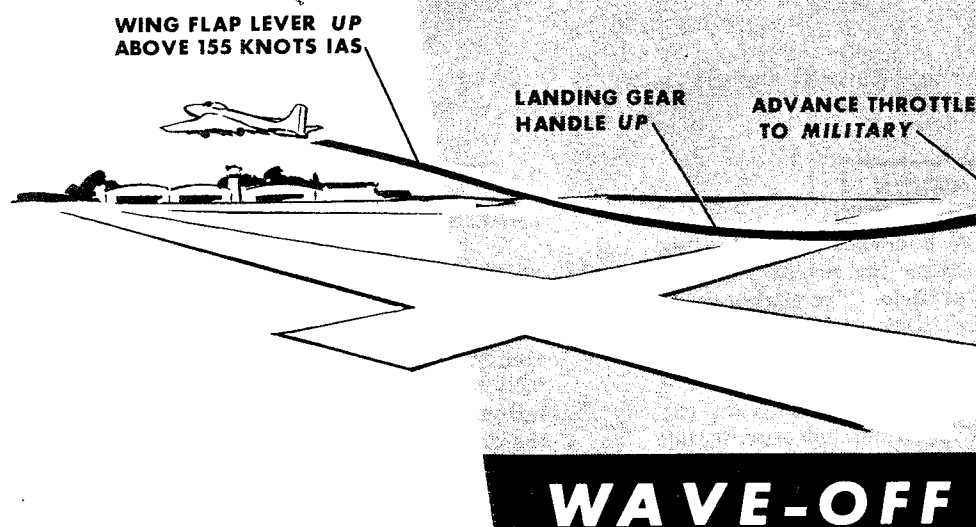

Figure 2-7.
3. Flaps UP when safe altitude and speed is attained. (See Figure 2-7.)